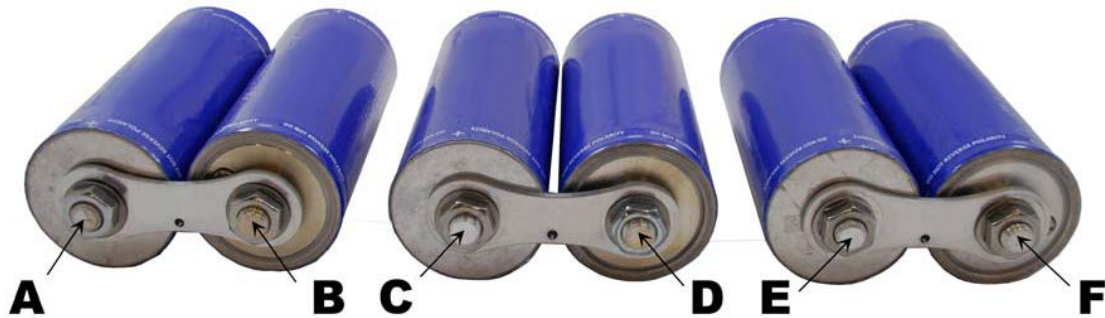

Figure 5
3.2.4 Repeat steps 3.2.1 to 3.2.3 on one side of each of the remaining pairs of cells. (Figure 5)